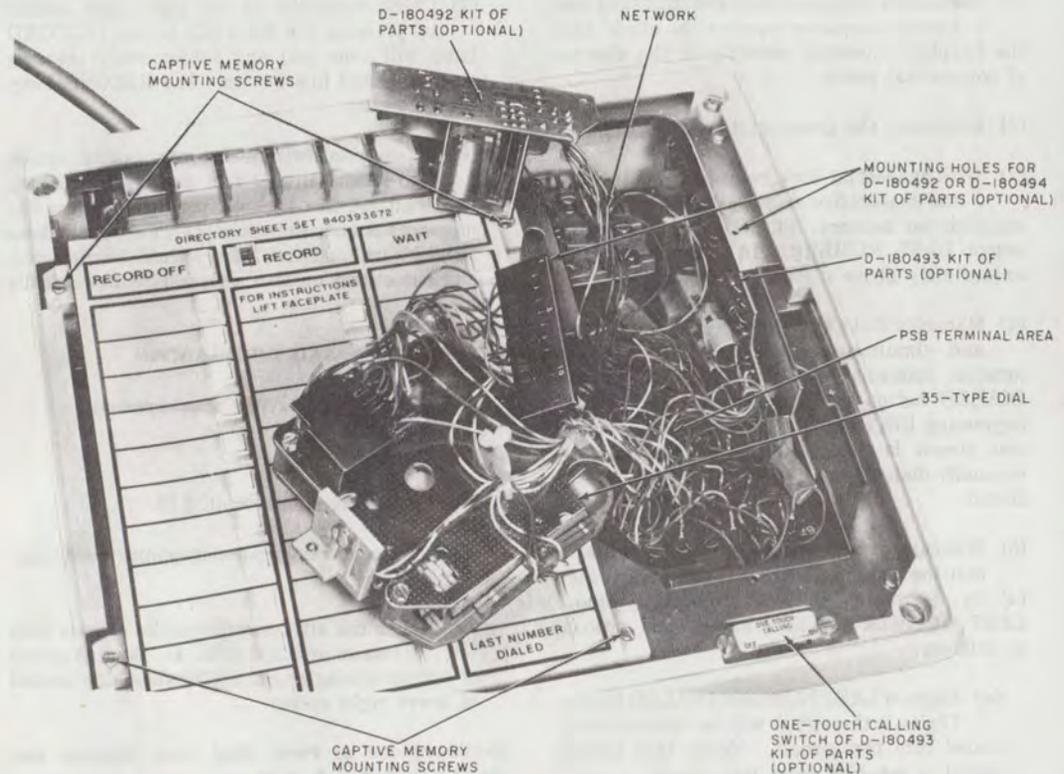

Fig. 4—2872A2M Telephone Set—Dial Removed To Show Terminal Area
- (1) Proceed as described in 3.16.
- (2) Make connections per the appropriate Tables, B through E.
- (3) Mount the kit assembly to the chassis with the screws provided (Fig. 4). Beveled corner of printed wiring board (PWB) should be located at lower right corner.
- (1) Remove the housing (3.21), and access PSB terminal board (3.17).
- (2) Insert the board assembly from the back of the set and locate as shown in Fig. 4, such that the two tabs on the board assembly fit into the slots in the bottom of the chassis.
- (3) Lock the board into position by inserting the self-threading screw through the right side of the chassis.
- (4) Mount the one-touch calling switch below the dial with the two screws provided.
- (1) Proceed as described in 3.17.
- (2) Make connections per Table G.
- (3) Mount the kit assembly to the chassis with the screws provided (Fig. 4).
- (1) Remove faceplate (3.19).
- (2) Loosen the captive screw at the bottom of the cover around the dial and remove the cover.
- (3) Disengage the four captive memory mounting screws (Fig. 4).
(b) Under the faceplate, inside the set (Fig. 4 and 5):
- Power supply (PSB) terminal area (Fig. 4)
- Network (Fig. 4)
- Options (Fig. 4):